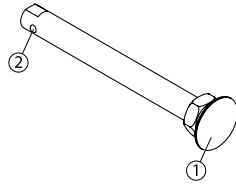
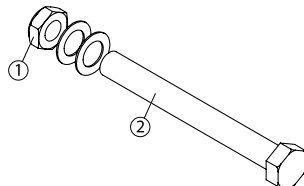

Fig. 9
Fig. 10
- To remove the rear wheels, push the button in the center of the wheel's hub (Fig. 9) and pull the wheels off (1).
- Always make sure that the quick release detent balls (2) extend beyond the axle bushing for a secure lock.
- To remove the rear wheels: unscrew the bolt (1) (Fig. 10) located inside the wheelchair axle bushing and pull out the wheel.
- To reinstall the rear wheels on the wheelchair: insert the threaded axles (2) in the axle bushing.
- Tighten the bolt (1) and make sure that the wheel is still turning without any restrictions.